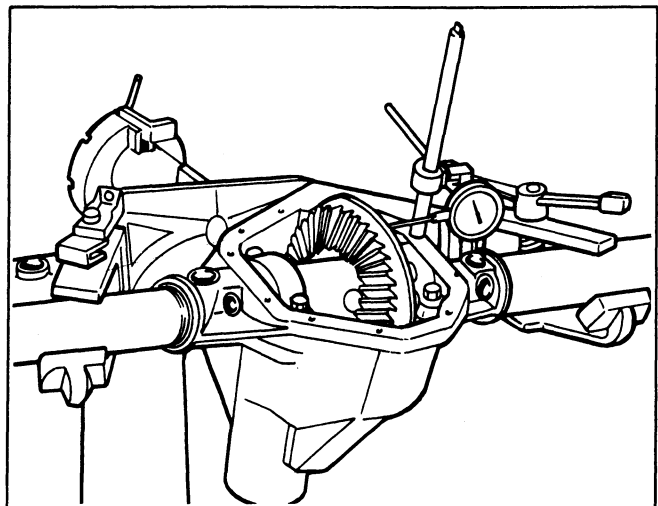

Figure 2-3. Check Drive Gear for Runout
1. Clean outside of housing thoroughly. Place rear axle and differential assembly (2) on a holding fixture or large vise, gripping tube with carrier cover facing upward.
2. Remove cover bolts and cover (3) and gasket (4).
3. Clean differential gears, bearings, and other internal parts of gear carrier with a solvent. At this point, rotate drive gear, check drive gear back face for runout with a dial test indicator. See Figure 2-3. Total indicator reading in excess of .006" might indicate loose drive gear or a sprung differential case.